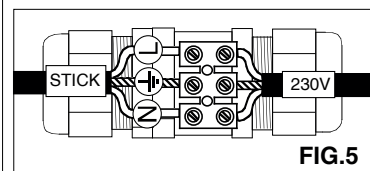

FIG.5
- Check carefully that there is no tension and connect the fitting by a junction box that maintains the IP grade. **FIG.5** (see accessory **M** recommended **646308** and **646636**)